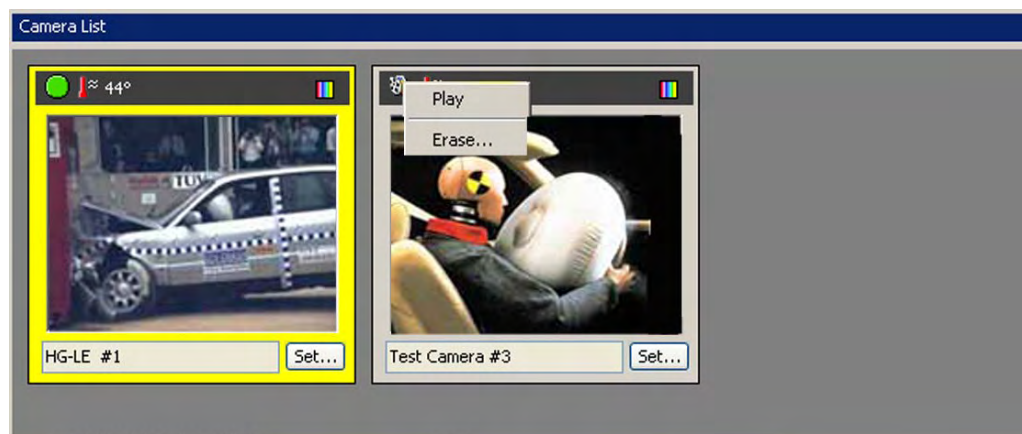

Figure 10.27: Camera List, Film Reel context menu
2. In the pop-up menu, select Play. This will display the images in a new window (or, if the window is already open, it will bring it to the front). See Figure 10.27.
2. In the pop-up menu, select Erase, and click OK to confirm. This will erase any recorded images in camera memory. See Figure 10.27.